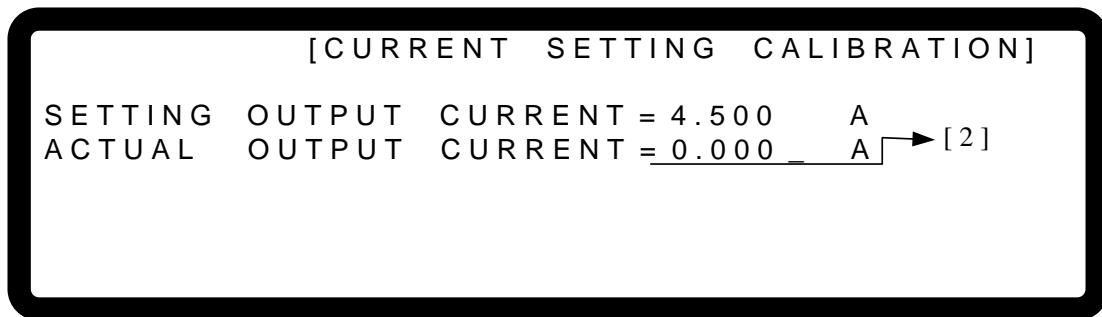

Figure 3-121
- Press “” to do the 4.5A calibration. The system will set the output current to 4.500A automatically and the cursor will stop at position [2] as shown in Figure 3-121. Input the current read by the Current Shunt (DVM) and press “” to confirm. Using 1.5A and 4.5A for calibration, the system will calculate the calibration factor for the low current range.